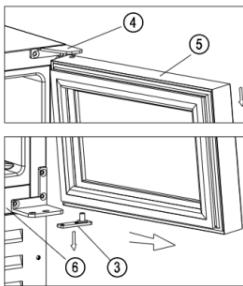

Figure 2
- Pull the door ③ outwards slowly [follow the arrow direction in Figure 2] to get
- The lower hinge ② and continue to pull the door ③ downwards slowly until getting off from the top right hinge ④, and take off the lower hinge plate ⑤ from the door axis hole [Figure 2].#
2. Unscrew the two screws ④ used to fix the lower hinge plate ⑤ at the bottom right corner of the door ③. Take out the door shaft sleeve ⑨ and two decorative screws ⑩ on the top right corner, and install them in the corresponding position on the lower right corner. Then use two screws ④ to install the lower hinge plate ⑤ at the corresponding position on the top right corner [Figure 2].